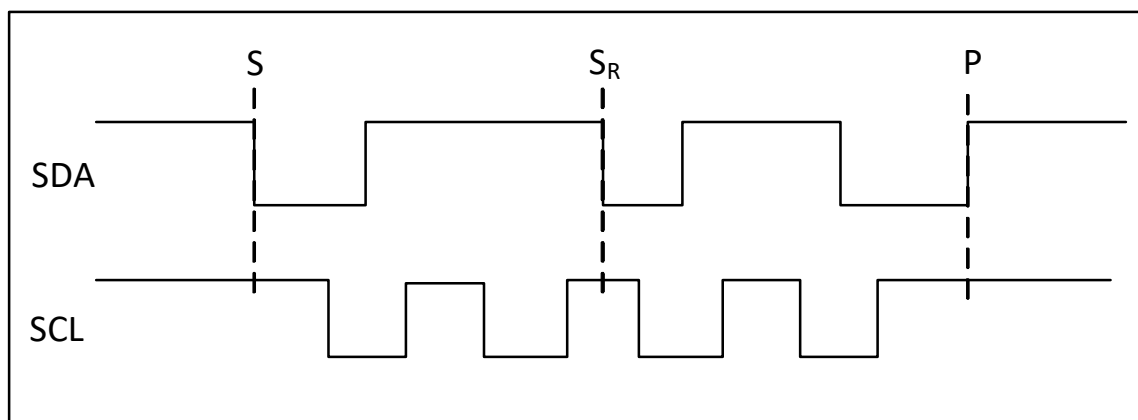
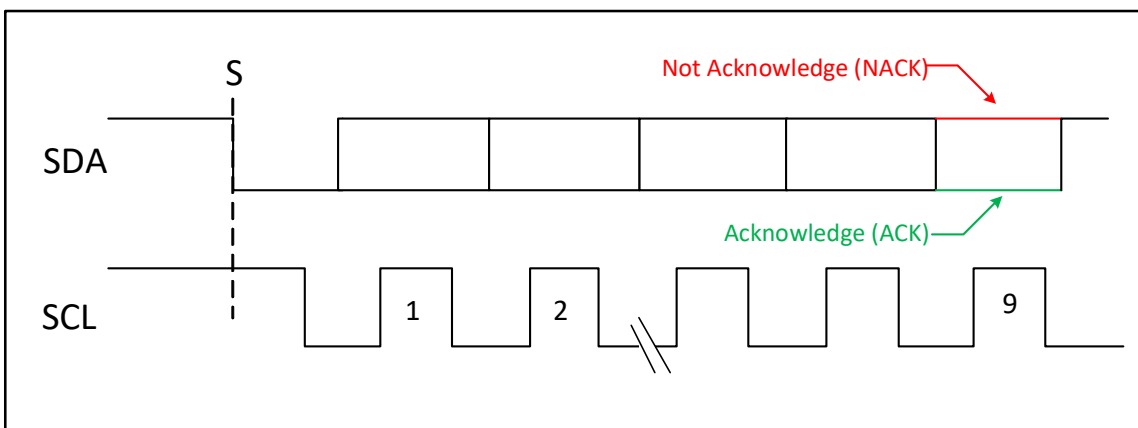

Figure 8. Start and Stop Conditions
Figure 9. Acknowledge Cycle
The I²C/SMBus serial port is a two-wire serial bus where data line SDA is bidirectional and clock line SCL is unidirectional. Reads and writes to this interface by the master are byte-oriented, with the I²C/SMBus master controlling the serial data rates up to 240 kbps. The SDA and SCL lines must be pulled high through pull-up resistors of 5 k Ω or less. An Si8901 ADC read transaction begins with a START condition (“S” or Repeated START condition “S_R”), which is defined as a high-to-low transition on SDA while SCL is high (Figure 8). The master terminates a transmission with a STOP condition (P), defined as a low-to-high transition on SDA while SCL is high. The data on SDA must remain stable during the high period of the SCL clock pulse because such changes in either line will be interpreted as a control command (e.g., S, P, S_R). SDA and SCL idle in the high state when the bus is not busy. Acknowledge bits (Figure 9) provide detection of successful data transfers, whereas unsuccessful transfers conclude with a not-acknowledge bit (NACK). Both the master and the Si8901 generate ACK and NACK bits. An ACK bit is generated when the receiving device pulls SDA low before the rising edge of the acknowledged related (ninth) SCL pulse and maintains it low during the high period of the clock pulse. A NACK bit is generated when the receiver allows SDA to be pulled high before the rising edge of the acknowledged related SCL pulse and maintains it high during the high period of the clock pulse. An unsuccessful data transfer occurs if a receiving device is busy or if a system fault has occurred. In the event of an unsuccessful data transfer, the bus master attempts communication at a later time. Figure 10A shows the I²C Slave Address Byte and CNFG_0 byte for the Si8901. Figure 10B and Figure 10C show master/Si8901 ADC read transactions for Demand Mode and Burst Mode, respectively.